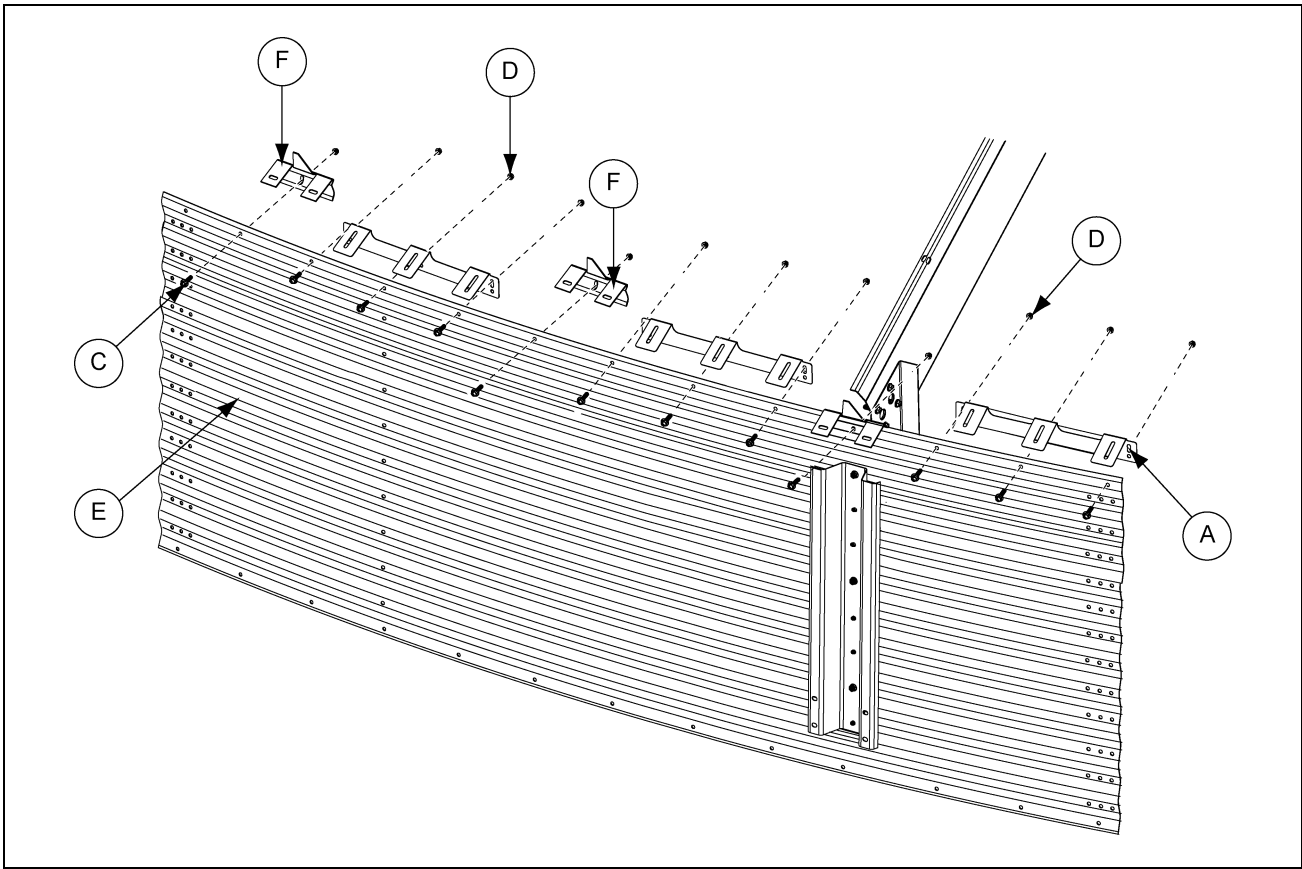

Figure 4E *Installing the Reverse Rolled Eave Clip and Intermediate Eave Angle to the Sidewall Sheet for 2.66"*
NOTE: Make sure to install the intermediate eave angle (A) to the inside of the sidewall sheet (E) for 2.66" bins. (See Figure 4E on Page 19.)
3. Repeat the process to continue installing the remaining eave clips (B or F) and intermediate eave angles (A).